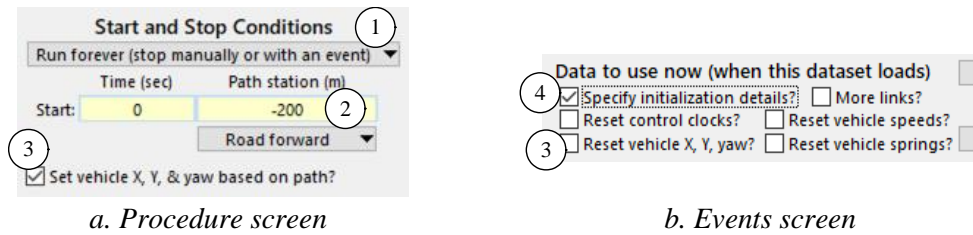

Figure 50. Setting vehicle location on the Procedures and Events screens.
BikeSim, CarSim, and TruckSim support several options for setting the vehicle state before the run starts (via the **Procedures** screen) and making adjustments after the run is in progress (via the **Events** screen). On both screens, a checkbox is associated with setting the vehicle X, Y, and Yaw state variables (3, Figure 50). The relevant controls are described below.
The path parameter `OPT_INIT_PATH` (checkbox ③, Figure 50, and line 741, Figure 51) may be used to specify that the vehicle will be initialized using `PATH_ID_DM` and possibly `LTARG_ID`. If `OPT_INIT_PATH = 1`, or if either the closed-loop steer controller or closed-loop speed controller is active, then the parameter `OPT_DIRECTION` (line 746) is used to set the direction in which the vehicle is moving along path `PATH_ID_DM`. Also, if `OPT_INIT_PATH = 1`, then the parameter `SSTART` (line 749) is used to set the initial `S` value for the vehicle Station on path `PATH_ID_DM`. The initial lateral coordinate is set by the `LTARG` dataset `LTARG_ID_DM`, unless `LTARG_ID_DM = 0`. In that case, the initial `L` coordinate is 0.